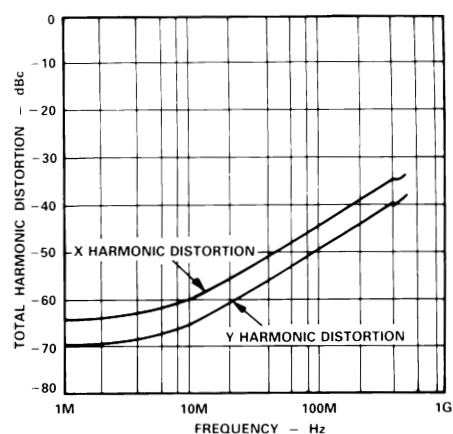

Figure 3. Total Harmonic Distortion vs. Frequency
**Figure 3.** THD data represented in Figure 3 is dominated by the second harmonic, and is generated with 0 dBm input on the ac input and +1 V on the dc input. For a given amplitude on the ac input, THD is relatively insensitive to changes in the dc input amplitude. Varying the ac input amplitude while maintaining a constant dc input amplitude will affect THD performance.